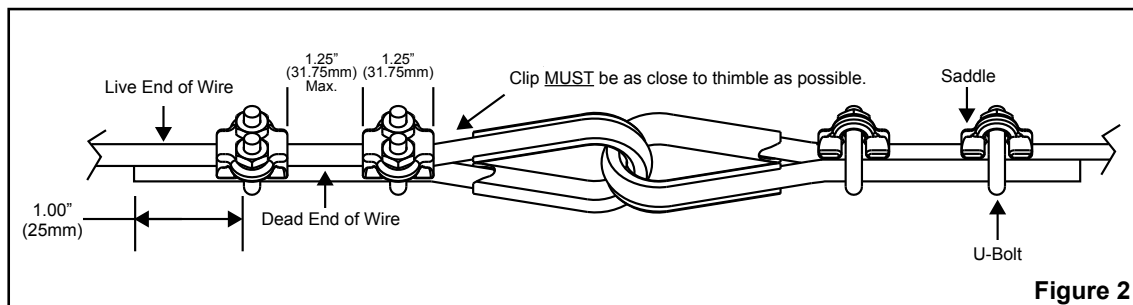

Figure 2
- STEP 2. Turn back a minimum of 4 .00" (100 mm) of the ¼" cable rope on the thimble or loop as shown in (Figure 2) below.